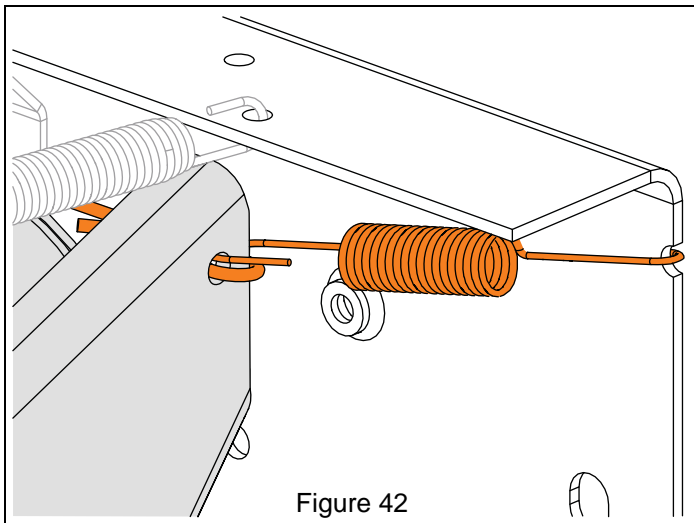

Figure 42
3. Reconnect traction drive clutch cable and return spring to swing gate. See Figure 42.